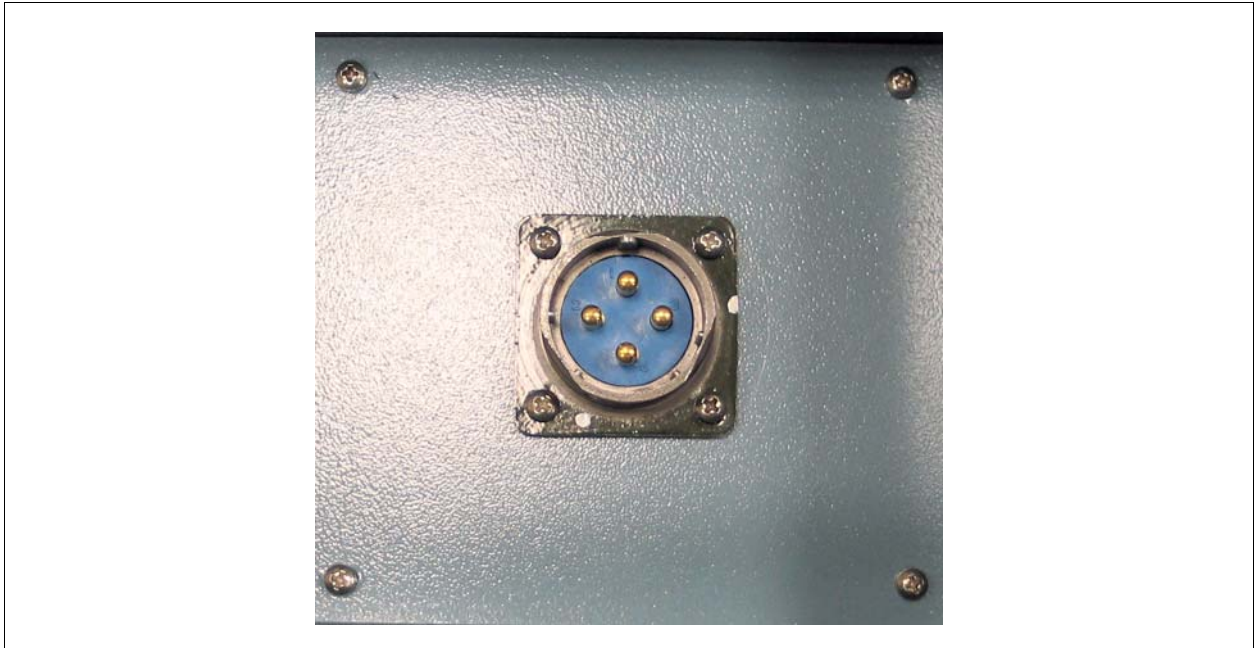

Figure 2-17: Power Supply Connection
- 7 Plug the round quick disconnect connector as illustrated in Figure 2-15 into the power connection on the top of the cabinet as illustrated in Figure 2-17. Secure the connector by twisting the connector sleeve until the lines on the cable connector and chassis connector align.